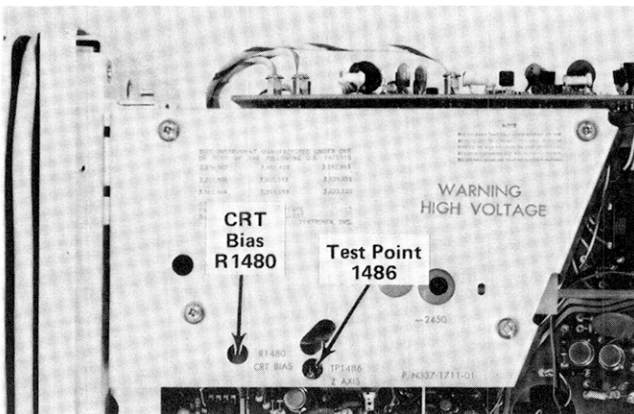

Fig. 5-4. Location of CRT Grid Bias adjustment and test point 1486.
- a. Connect the DC Voltmeter between TP1486 which is accessible through a hole in the high voltage cover, and ground. (Negative meter lead to ground.) See Fig. 5-4.
- e. ADJUST—CRT Grid Bias adjustment, R1480, for the dimmest, well-defined dot visible on the CRT (see Fig. 5-4).